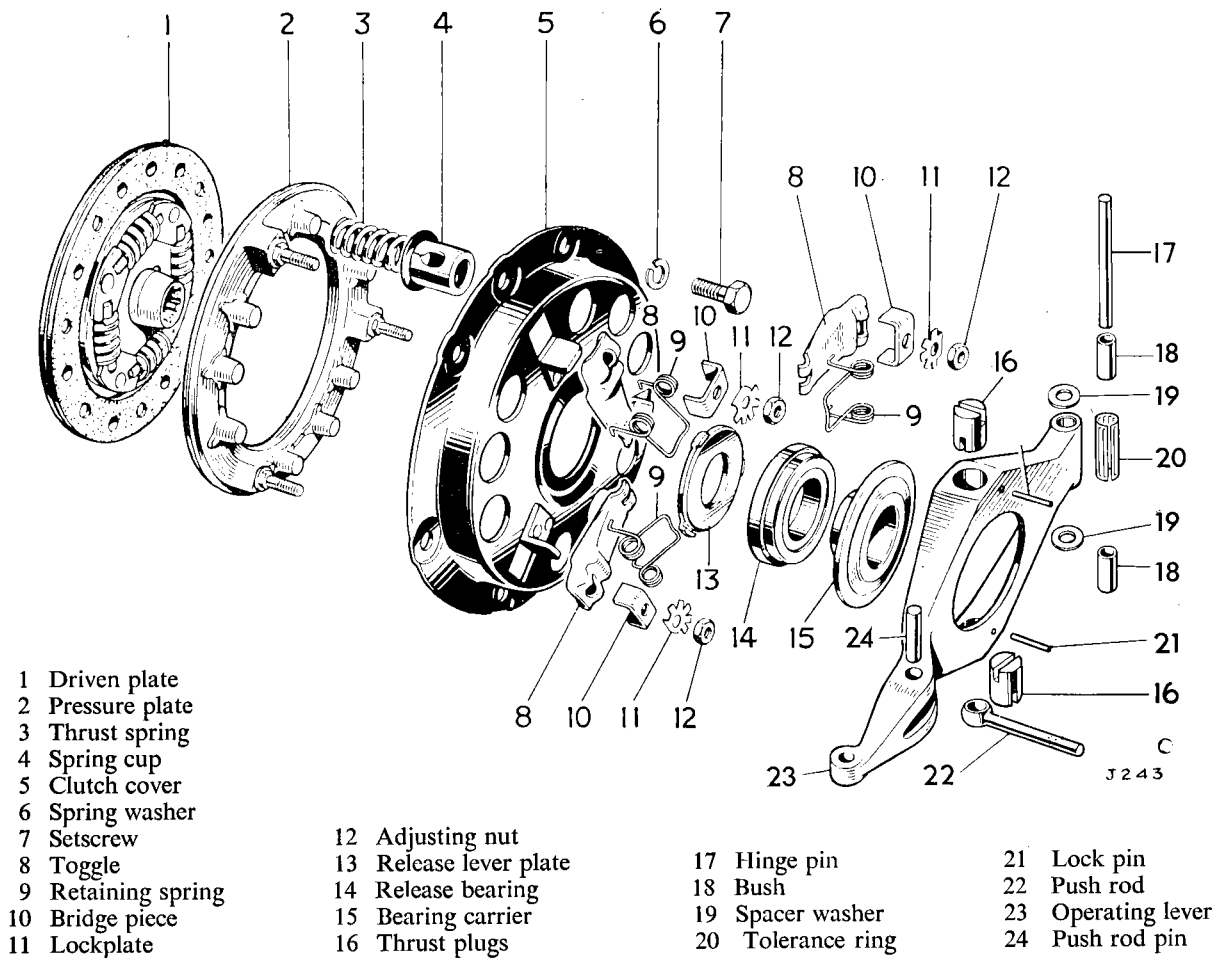

Fig. 13. Exploded clutch unit (Herald 1200, 12/50 and Spitfire, condition prior to diaphragm type clutch)
1. Position the spacers (6) on the baseplate and place the clutch unit (6) over the spacers, with the release levers as near as possible over the spacers.
2. Mark the pressure plate, cover and toggles to facilitate re-assembling them to their original positions. Fit the operating handle (8) to the baseplate, and clamp the clutch unit by levering the handle. Secure the unit to the baseplate with six setscrews (7). Remove the operating handle.
3. Referring to Fig. 13, hold the release lever plate (13) down and detach the retaining springs (9). Remove the release lever plate.
(a) HERALD 1200, 12/50 AND SPITFIRE (Fig. 13)